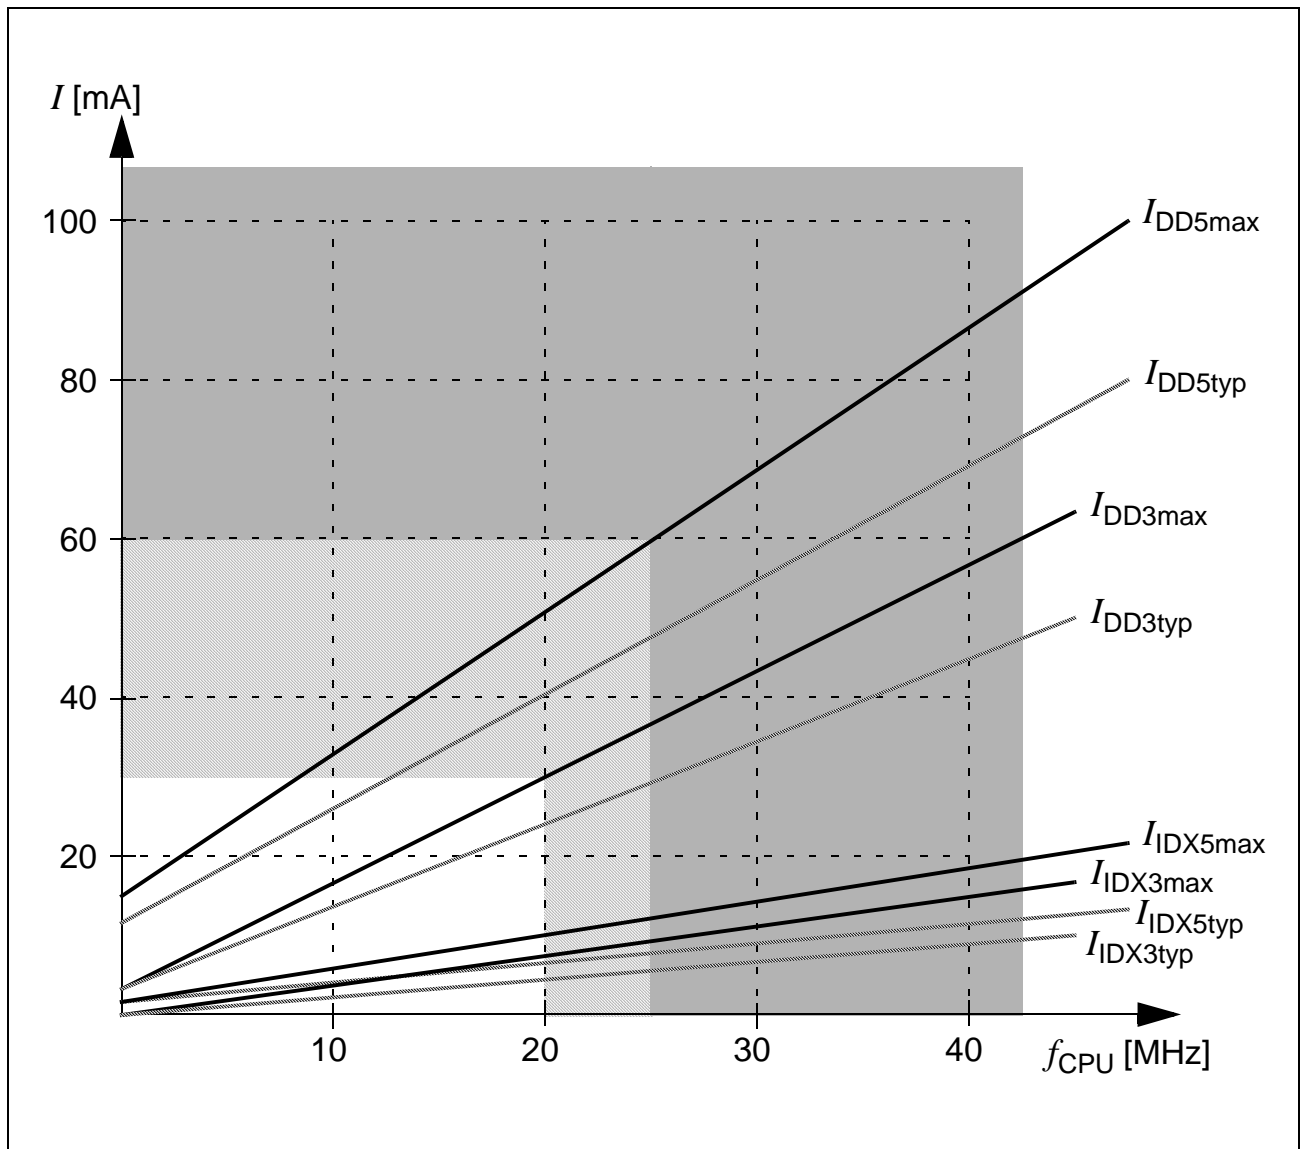

Figure 8 Supply/Idle Current as a Function of Operating Frequency
- ¹⁾ The supply current is a function of the operating frequency. This dependency is illustrated in Figure 8. These parameters are tested at V_{DDmax} and maximum CPU clock with all outputs disconnected and all inputs at V_{IL} or V_{IH} .